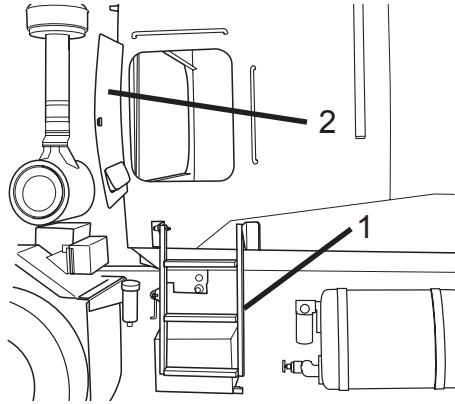

Figure 46
5. Fold down the ladder (Figure 46, Item 1) (if equipped) to gain access to the side door.
6. Open the side door (Figure 46, Item 2)